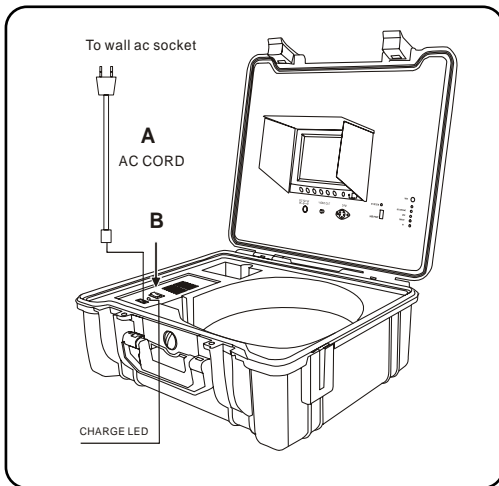

Figure 2
- 1) Plug the AC cord into wall AC socket & insert the other end into the Battery Box AC jack (See Figure2- A)
- 2) Press down the charge switch (See Figure2-B)